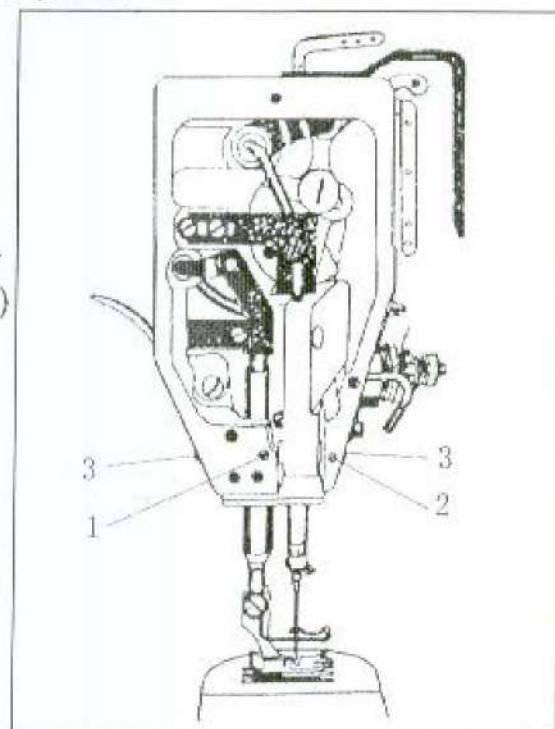

Fig.18
- 1) The needle punches longitudinally into the center of the needle plate slot position adjustment (Fig.18)